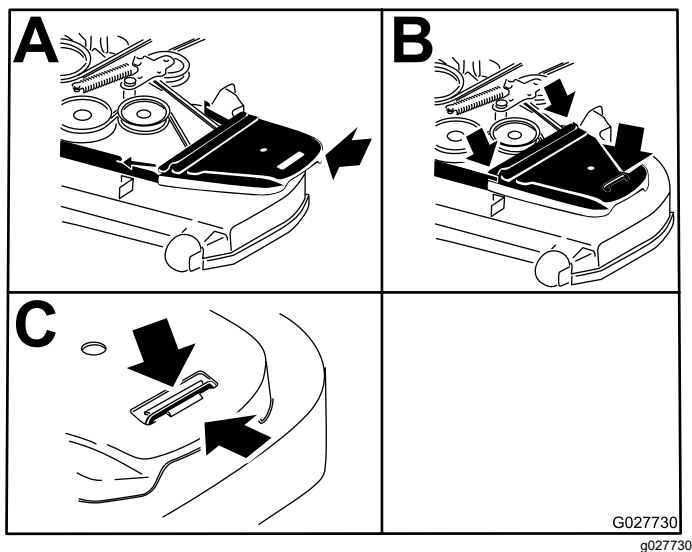

Figure 65
12. Install the belt covers (Figure 65).